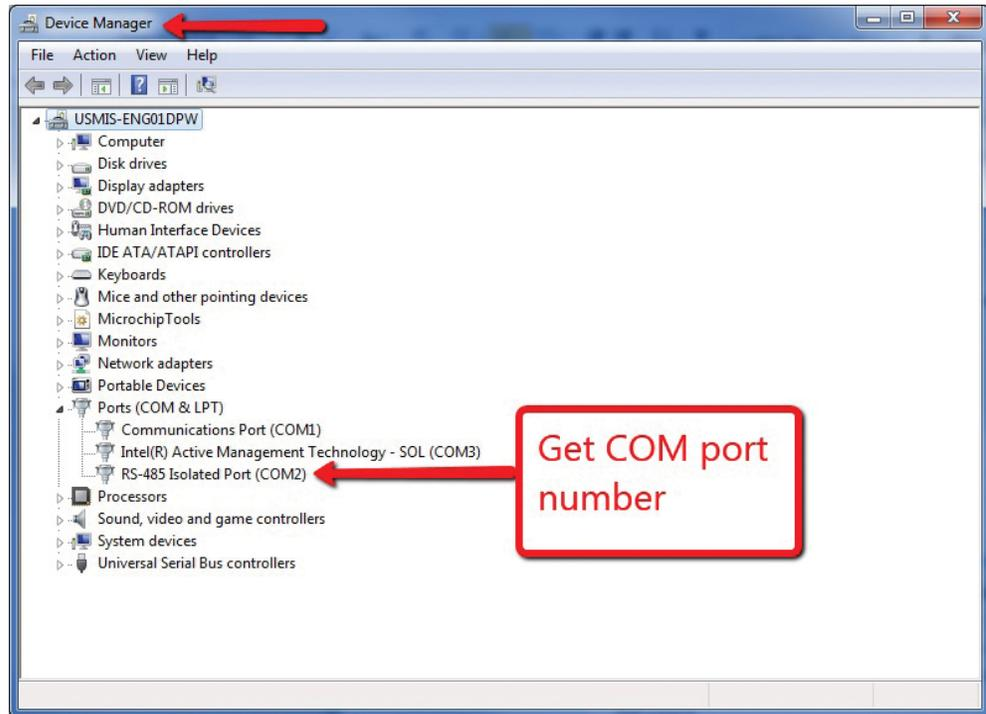

Figure 6 Com Port Number
- Determine the RS485 Adapter box Com Port Number. See Figure 6.